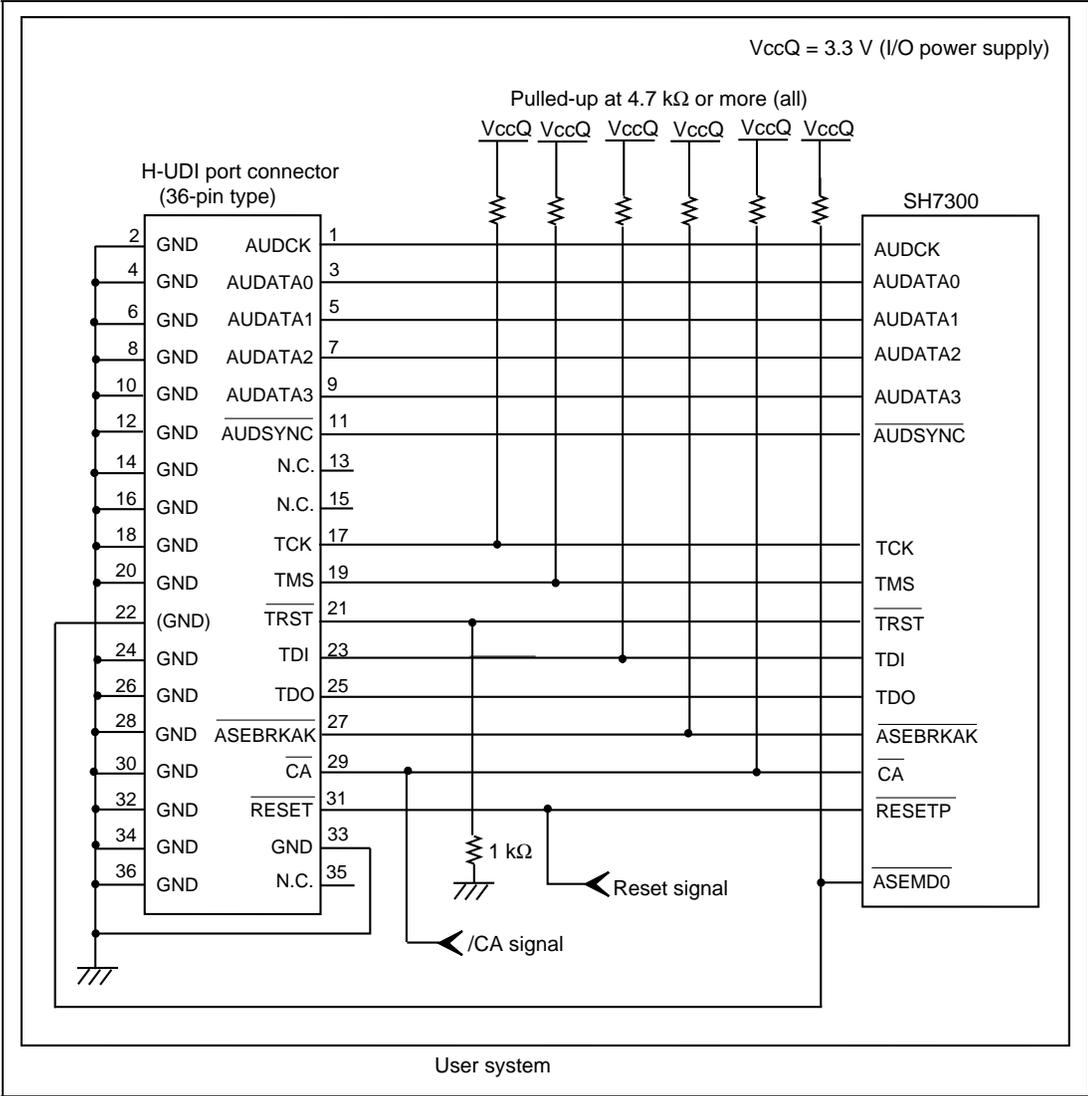

Figure 1.4 Recommended Circuit for Connection between the H-UDI Port Connector and MPU when the Emulator is in Use (36-Pin Type UVCC Not Connected)
9. Changing the emulator switches ($SW2 = 0$ and $SW3 = 0$) allows pin 29 to be used as the /CA pin. With this setting, supplying the VccQ to the UVCC pin is not available. Thus the I/O voltage level of the user system interface will be fixed to 3.3 V. Pin 15 must be N.C (open), as shown in figure 1.4.
When the circuit is connected as shown in figure 1.4, the switches of the emulator are set as SW2 = 0 and SW3 = 0. For details, refer to section 3.8, Setting the DIP Switches, in the Debugger Part of the SuperH™ Family E10A-USB Emulator User’s Manual.